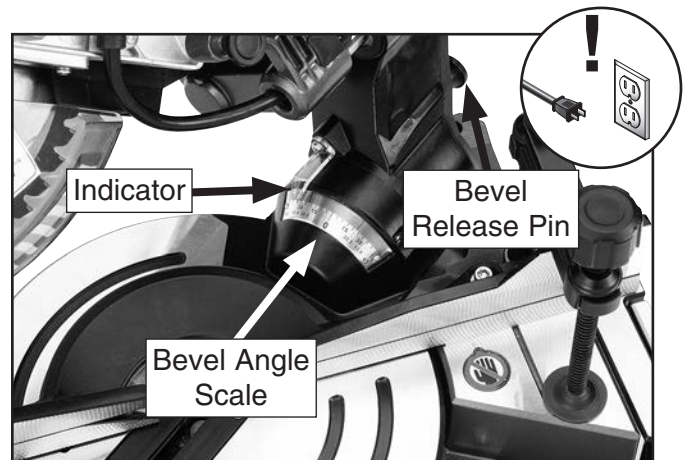

Figure 52. Bevel angle.
3. Pull bevel release pin and use operating handle to push cutting head to desired angle (see **Figure 52**).